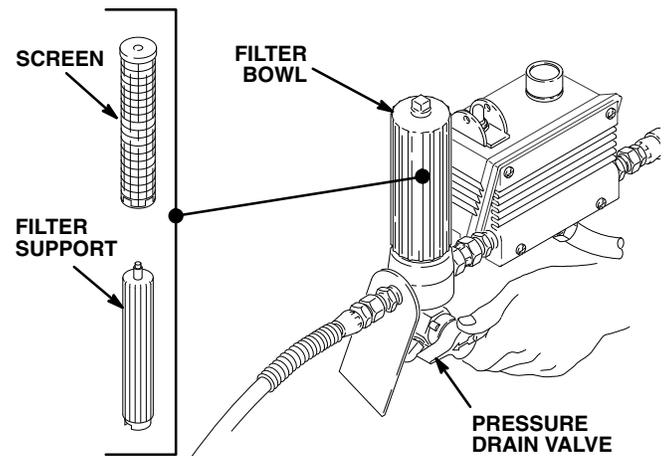

Fig. 9
3. Remove the spray tip from the gun. Remove the filter bowl and screen; see manual 307–273. Clean the screen separately and install the bowl without the screen to flush it. See Fig. 9.